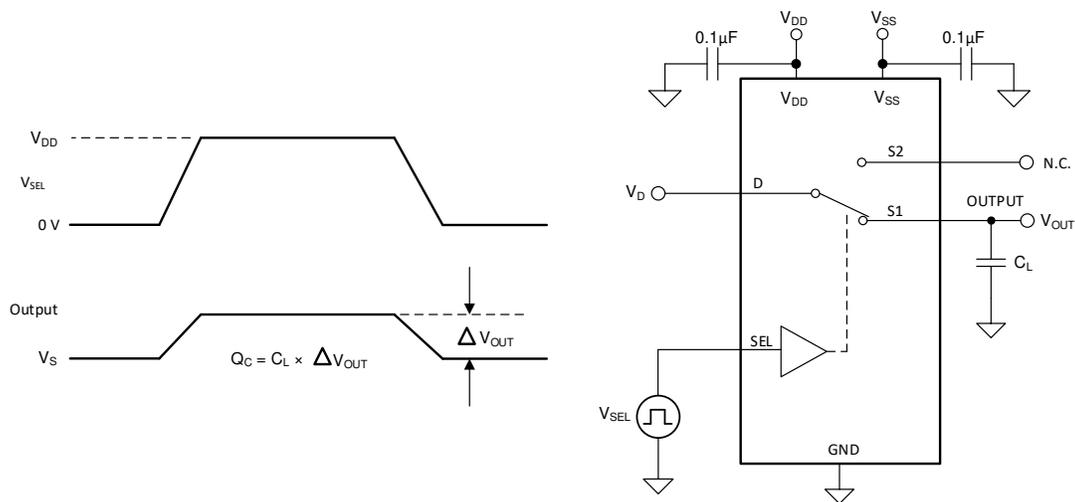

Figure 12. Charge-Injection Measurement Setup
The TMUX1219 has a transmission-gate topology. Any mismatch in capacitance between the NMOS and PMOS transistors results in a charge injected into the drain or source during the falling or rising edge of the gate signal. The amount of charge injected into the source or drain of the device is known as charge injection, and is denoted by the symbol Q_C . Figure 12 shows the setup used to measure charge injection from Drain (D) to Source (Sx).